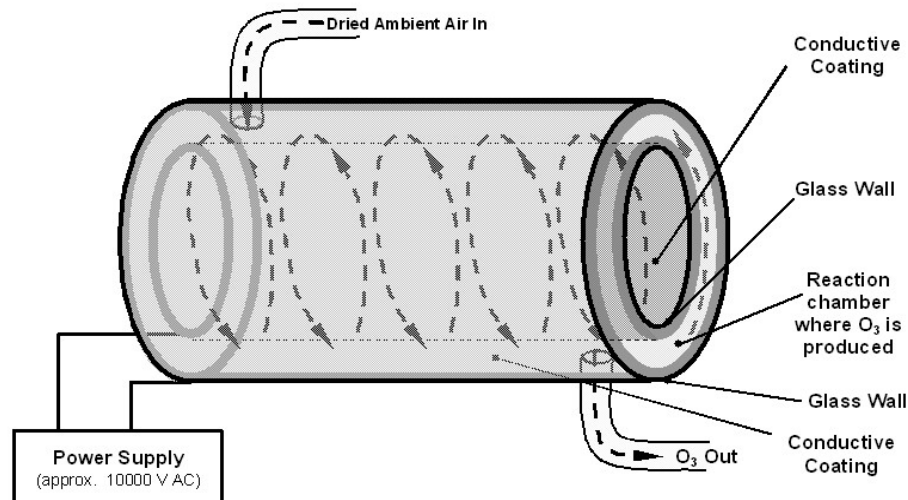

Figure 13-8: Ozone Generator Principle
The T204 uses a dual-dielectric, Corona Discharge (CD) tube for creating its O₃, which is capable of producing high concentrations of ozone efficiently and with low excess heat (see Figure 13-8). The primary component of the generator is a glass tube with hollow walls of which the outermost and innermost surfaces are coated with electrically conductive material.